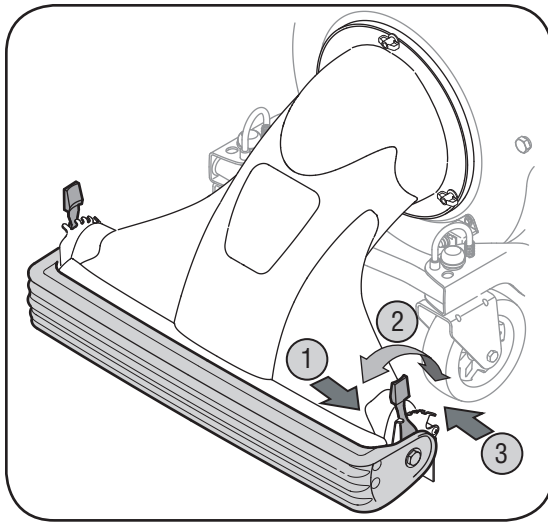

Figure 8
- Slide the height adjustment lever forward or backward for adjusting the nozzle door upwards or downwards. See Figure 8.